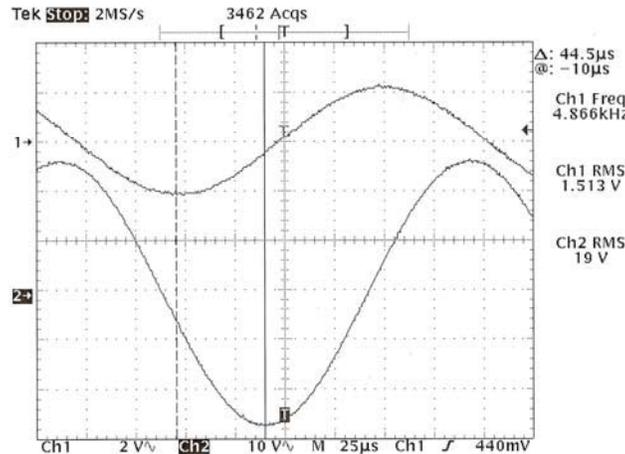

Figure 1.14
A typical trace near the resonant frequency, with the cursors placed at the troughs, is shown in Figure 1.14.[For the waveforms in Figure 1.14, $V_{out}(Ch2)$ lags $V_{in}(Ch1)$ by $360(4866)(44.5 \times 10^{-6})$ degrees or $\sim 78^\circ$]
11. **Results (AC) :**
- The amplitude ratio V_{out}/V_{in} in Fig 1.14 is called the Voltage Gain A_v . From the two printouts of Step 10, obtain the values of A_v at the two frequencies f_1 & f_2 used.